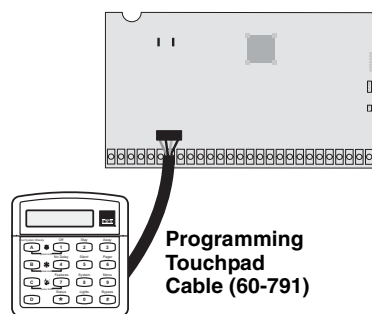

Figure 25. Connecting a Programming Touchpad
3. Connect the plug on the cable onto the panel programming touchpad header (see Figure 25).